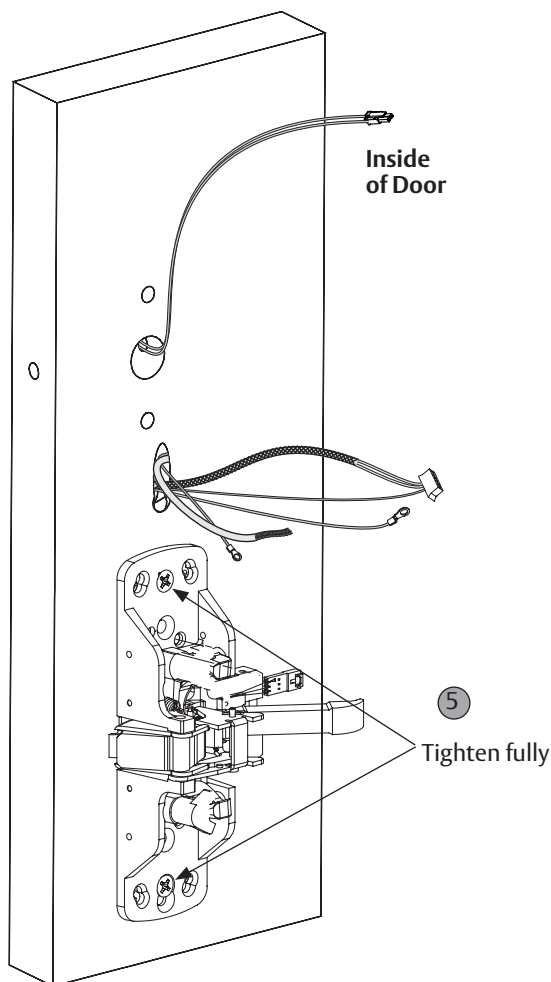

Figure 5-4B
5. Fully tighten two (2) chassis through bolts (Figure 5-4B).